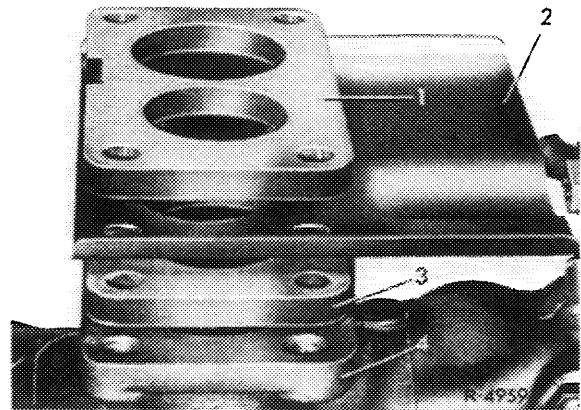

Fig. 07-2/1
- 6 Install air cleaner. Place rubber rings (8) on carburetor and position air cleaner in such a manner that the water separator is inserted into the rubber sleeve (7). Tighten fastening bolts (2). Fit warm air hose and engine breather hose (Fig. 07-2/2).